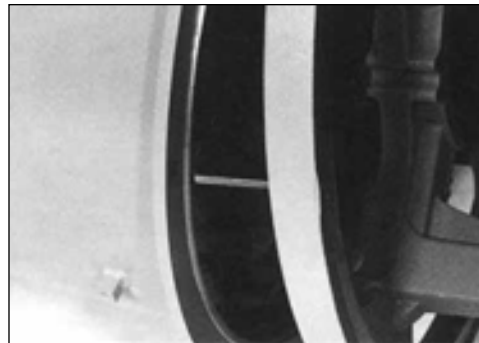

Figure 6-32
1. Clean dust and dirt from the stator winding (see figure 6-32 and section 5).
1. Install two guide pins (threaded rod can be used) into the generator side of the end bracket mounting holes. align the guide pins with the holes in the generator frame and slide the bracket onto the frame (figure 6-32). Install bracket mounting capscrews (figure 6-33).